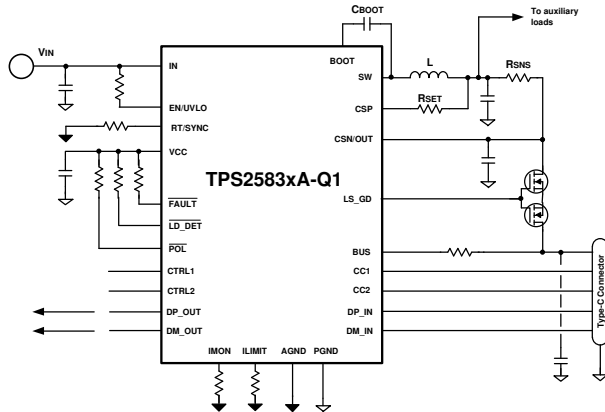

图 10-16. TPS2583xA-Q1 Current Limit with External MOSFET
- With external MOSFET 图 10-16:
3. Typical R_{ILIMIT} resistors value are listed in 图 10-16, given the condition R_{SNS} = 15 mΩ and R_{SET} = 300 Ω.
The TPS2583xA-Q1 has integrated NFET gate drivers and can support current limit with external NFET. Refer to 图 10-16.